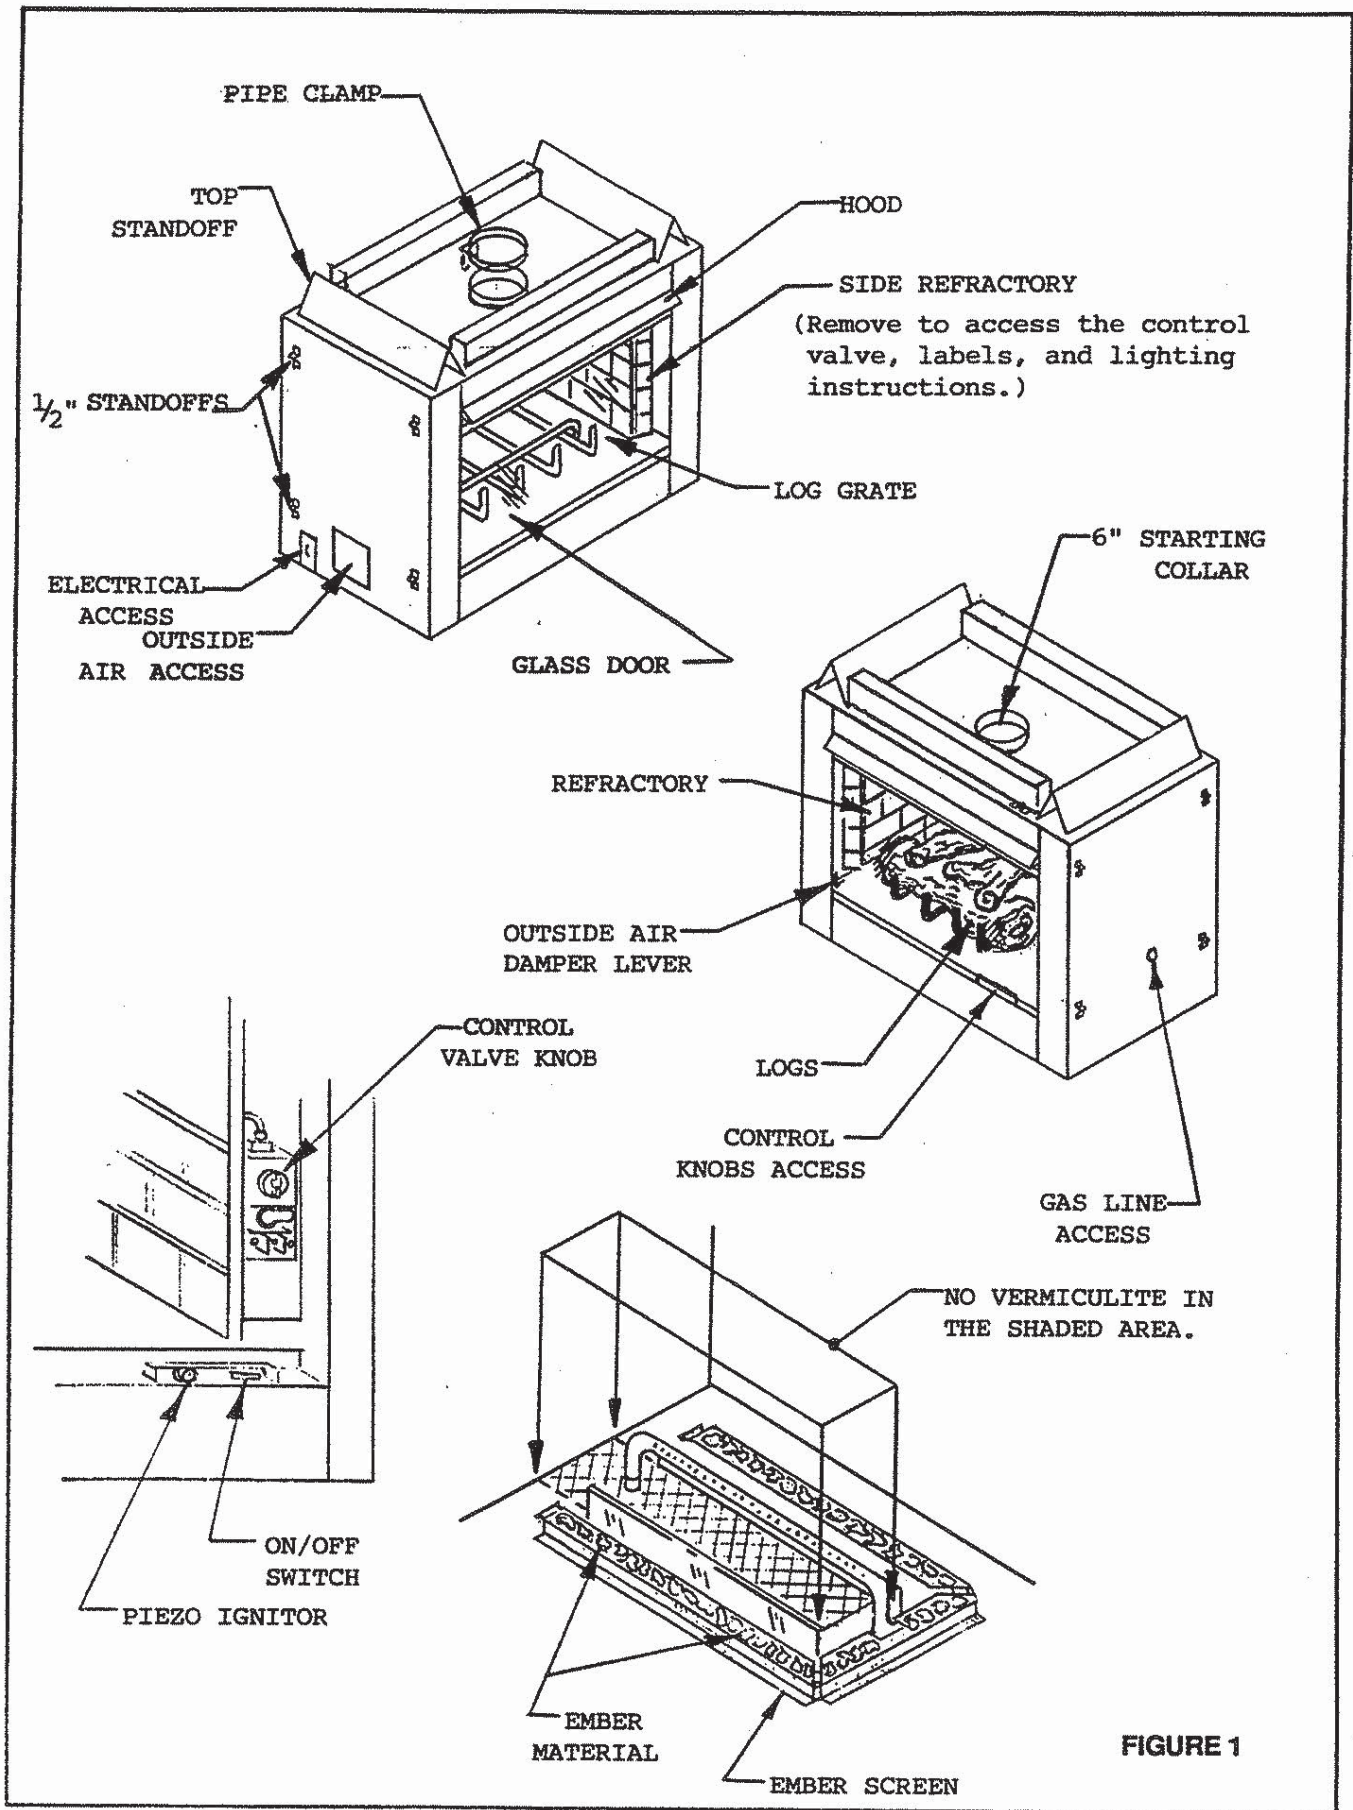

FIGURE 1
The control system for Model ST-42GTV is a millivolt type. It consists of a gas control valve/regulator, a standing pilot assembly, a thermopile, a piezo ignitor, a high temperature limit switch, an ON/OFF rocker switch, and a safety microswitch for the glass door on the gas control side of the unit. The controls are located inside the fireplace behind the glass door assembly. Access to this compartment is gained by removing the glass door and the small end refractory piece. See Figure 1.
**CAUTION:** DO NOT BLOCK THE BASE OF THE BURNER WITH VERMICULITE AND DO NOT PLACE VERMICULITE IN THE AREA BETWEEN THE LOWER BURNER TUBES. SEE FIGURE 1.
**NOTE:** Carefully spread a single layer of dime size and shape pieces of ember material (found in a separate bag) uniformly over the upper portion of the lower burner ember shield (Figure 1). DO NOT COVER THE LOWER BURNER WITH VERMICULITE. Keep the unused ember material for the annual servicing of the fireplace.